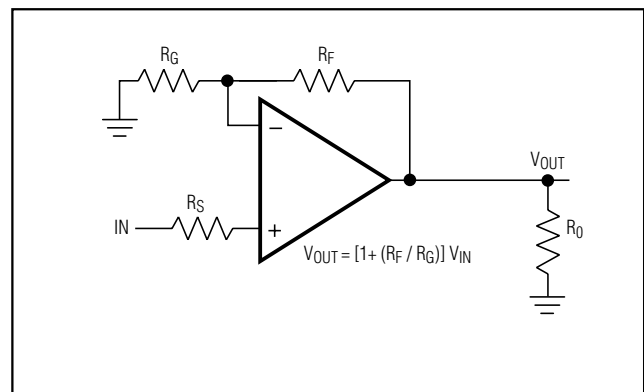

Figure 3a. Noninverting Gain Configuration
**Note:** For high gain applications where output offset voltage is a consideration, choose  $R_S$  to be equal to the parallel combination of  $R_F$  and  $R_G$  (Figures 3a and 3b):